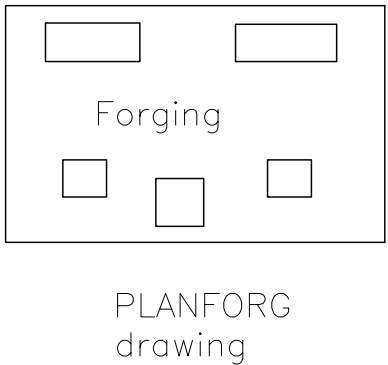
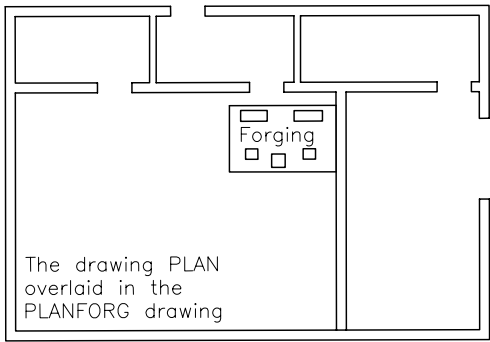

Figure 2-19 The PLANFORG drawing
Figure 2-20 The PLANFORG drawing after overlaying the PLAN drawing
3. Open the PLANFORG drawing, refer to Figure 2-19 and select the **Overlay** radio button in the **Attach External Reference** dialog box, which is displayed after you have selected the PLAN drawing to reference. The PLAN drawing is overlaid on the PLANFORG drawing, refer to Figure 2-20. Save the drawing.